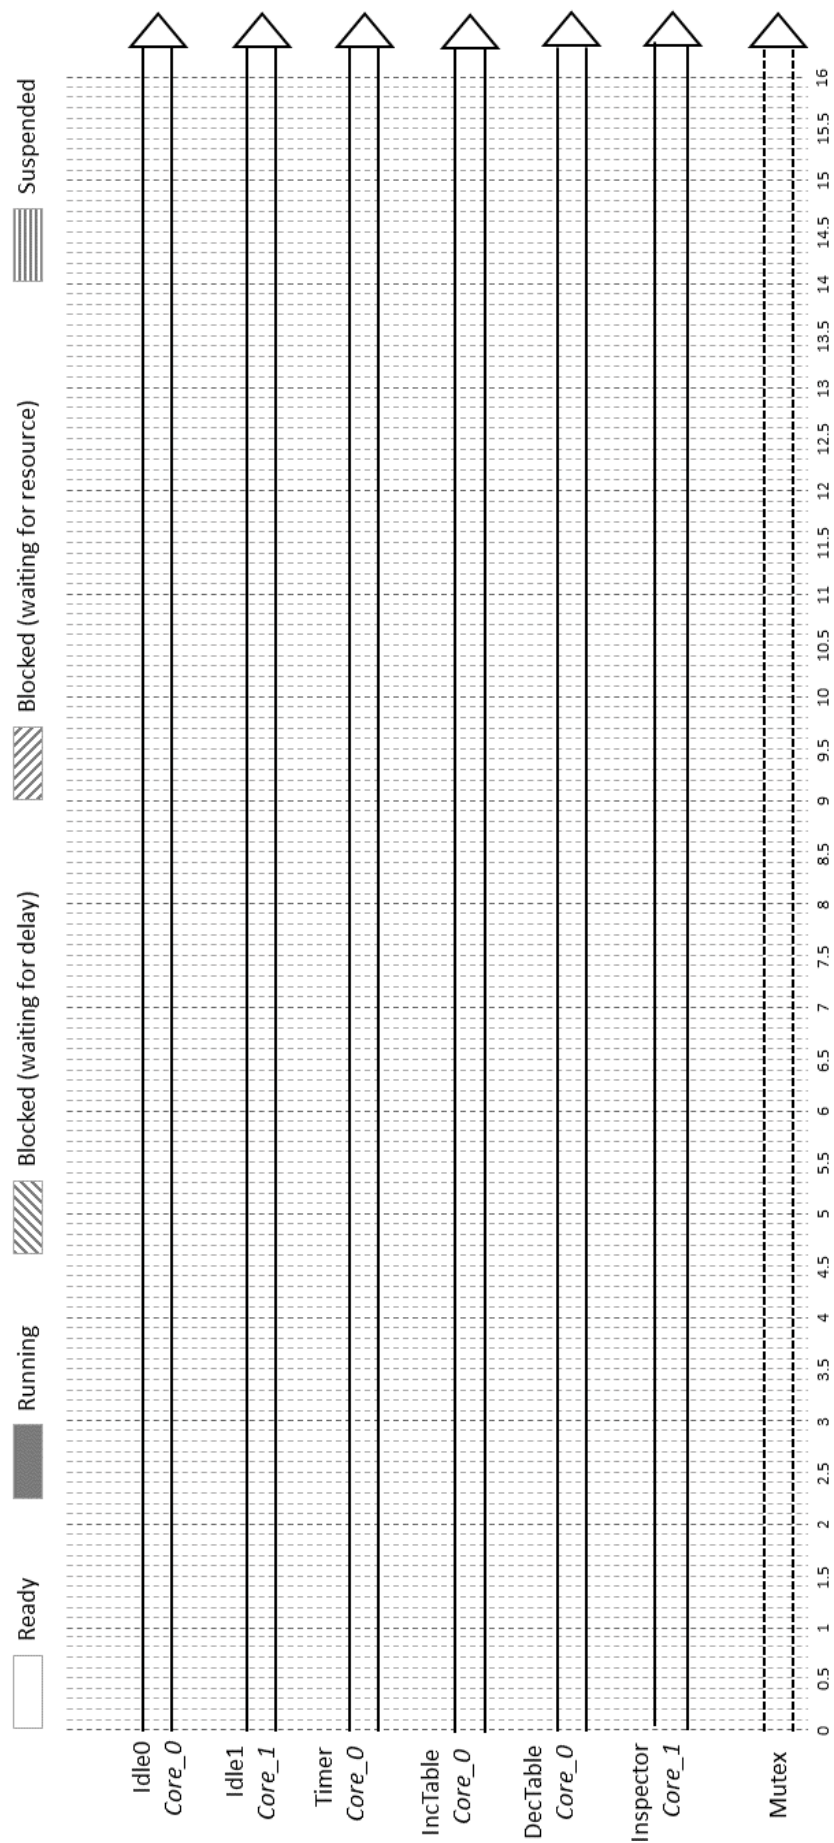

FIGURE 3.8 – Program with Task inspector on the Core_1 and Mutex.
12. We now decide to add a delay of 2 ticks after giving the mutex (using *vTaskDelay()* function) in the *Inspector* task. Run the program, copy the console, trace in the figure 3.8 the behavior of the 3 tasks and Mutex until 90 ticks and explain the behavior.